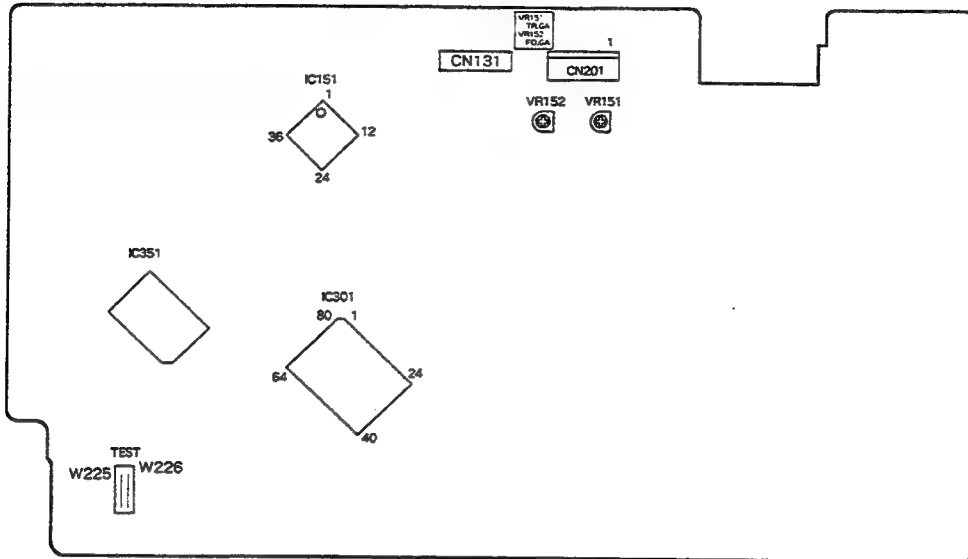

Figure 1. Adjustment Locations
2. Short the test mode jumper wires. (See Figure 1.)